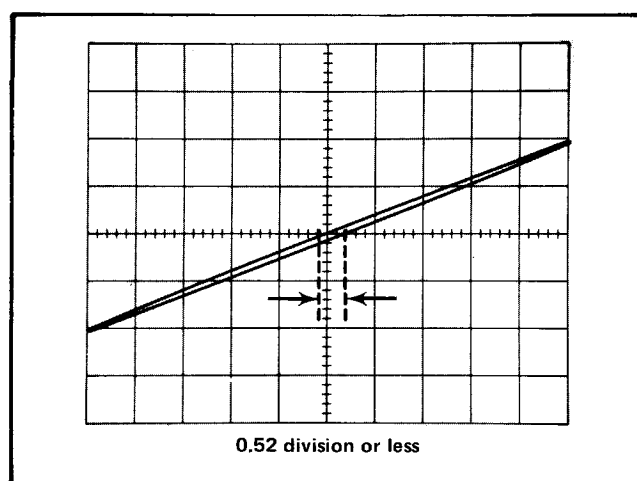

Fig. 5-2. Typical CRT display when checking X-Y phasing.
e. CHECK—CRT display for an opening at the center horizontal line of 0.52 division or less (3° or less phase shift; see Fig. 5-2).